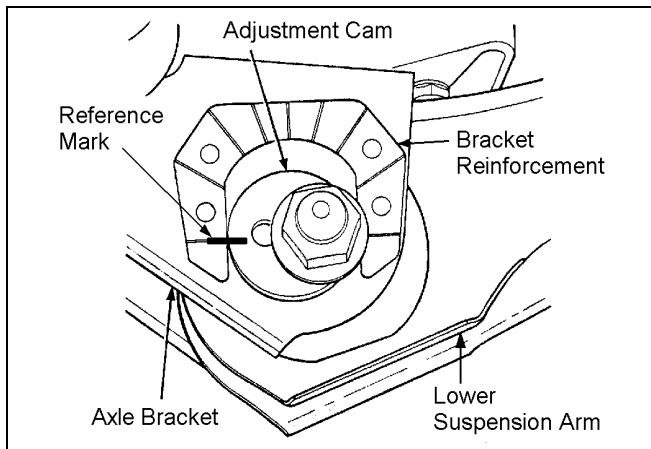

Figure 4
2) ☐ Paint or scribe alignment marks on the adjustment cams and axle brackets for installation reference. See Figure 4.